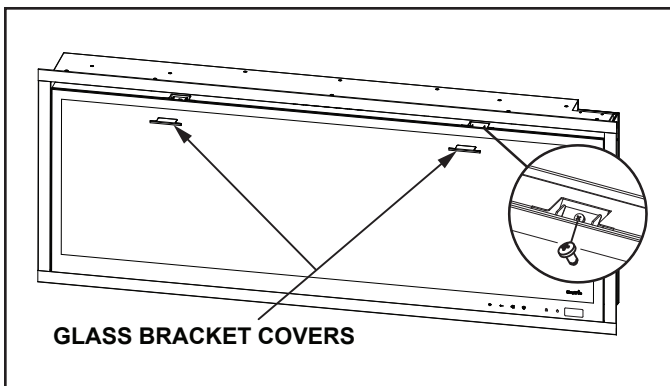

Figure 4.14 Glass Front Attachment
2. Place the top edge of the glass against the appliance and secure with two (2) ST4X8 screws on a 50" and 60", or three (3) ST4x8 screws on a 78" and 100".
3. Place glass bracket covers into place over the screws. See Figure 4.14.